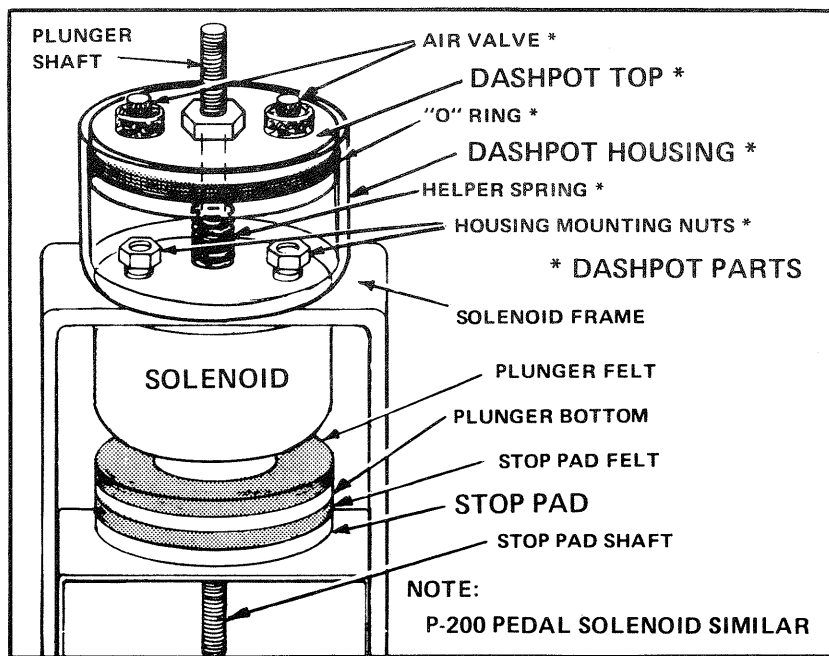

FIGURE C4-A Pedal Solenoid parts identification.
TURN POWER OFF and remove the defective Solenoid from the piano. Remove the Top of the Dashpot and set it aside. Loosen the two (2) 10-32 Nuts (see FIGURE C4-A) just enough so you can move the Housing by pressing it firmly on the side. Screw on the Top of the Dashpot and turn it down until it sits inside the Housing, then adjust the Housing so the Dashpot Top is centered in it. Work the Solenoid plunger shaft to make sure the Top DOES NOT rub against the Housing, then remove the Top and secure the 10-32 Nuts (make sure you DO NOT change the position of the Housing as you do this). Spray DRY powdered graphite onto the "O" Ring on the Top of the Dashpot and install the Top again. Work the Solenoid plunger to make sure the Dashpot Top slides freely in the Dashpot Housing. Perform the alignments in Section 9, STEPS 9-60 thru 9-69 on pages 128 thru 152 to adjust the Solenoid.